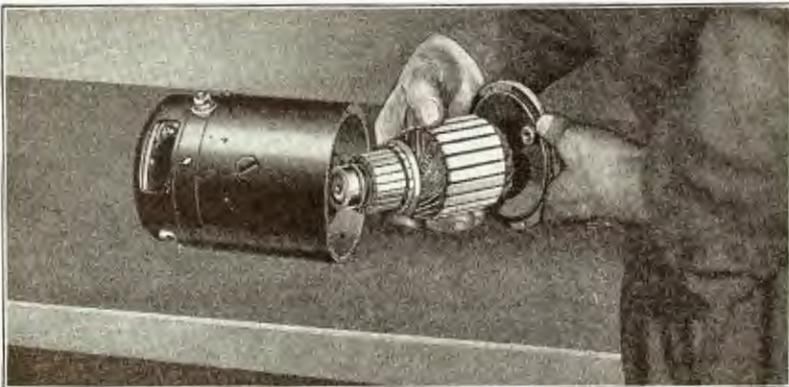

Fig. 452
- 907** Armature assembly, which comprises the generator head, armature together with large and small bearings can now be withdrawn from yoke (See Fig. 452).